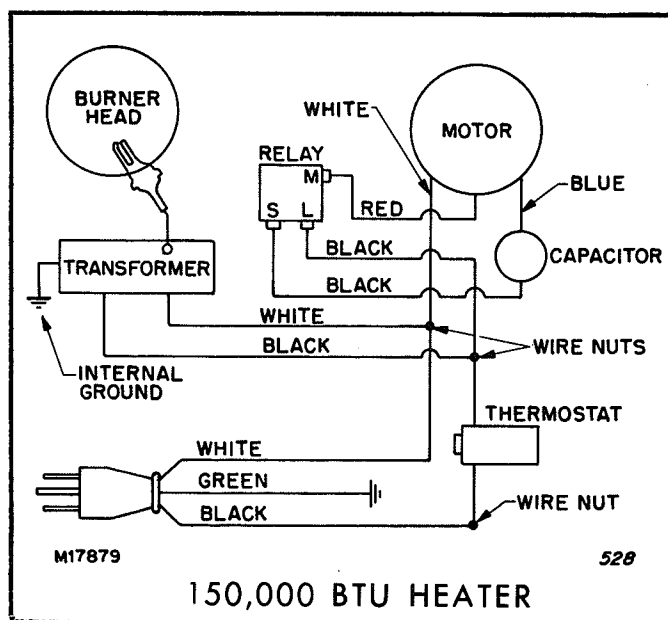

Figure 9. Wiring Diagram
5. Reinstall the attaching screws, and make wiring connections in accordance with Figure 9.
(4) Take the black motor wire off its terminal on the starting relay. Touch this wire to the terminal of the red motor wire, at the relay. The motor should start. As soon as the motor reaches operating speed, remove the black wire from contact. The motor should continue to run.
(5) If the motor starts, install a new relay, and reconnect the wiring according to the Wiring Diagram, Figure 9.
(6) If the motor fails to start, or if it fails to continue running when the black wire is taken away, the motor is defective. Repair or replace it. See paragraph G of this Section.